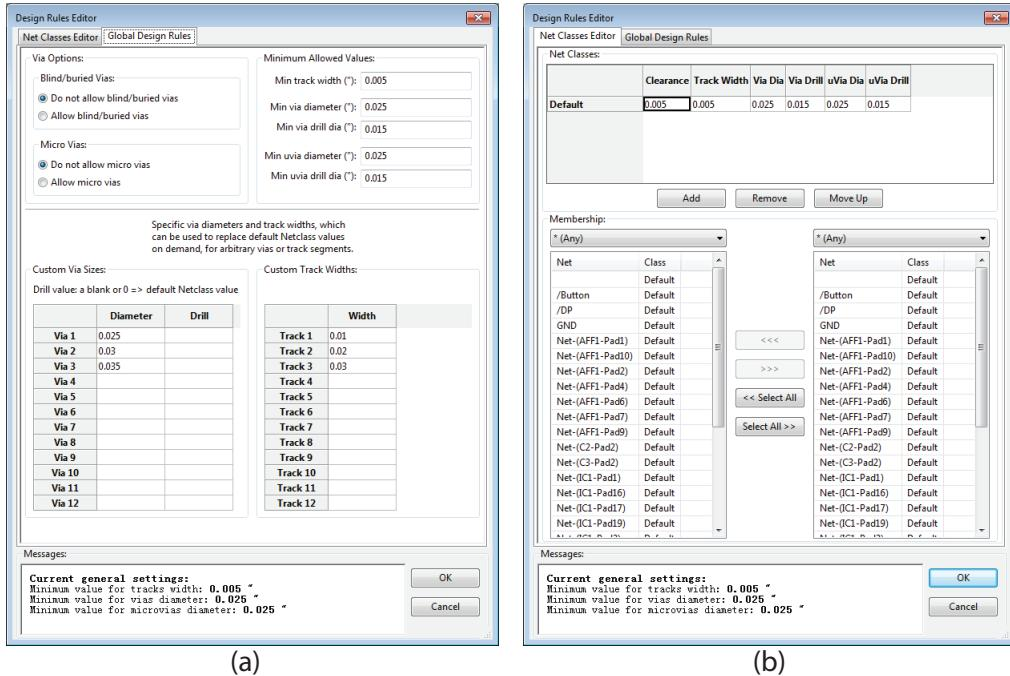

Figure 26: Design rules set up.
- b) In the “Net Class Editor” tab, set the default net class constraints according to Fig. 26-b.